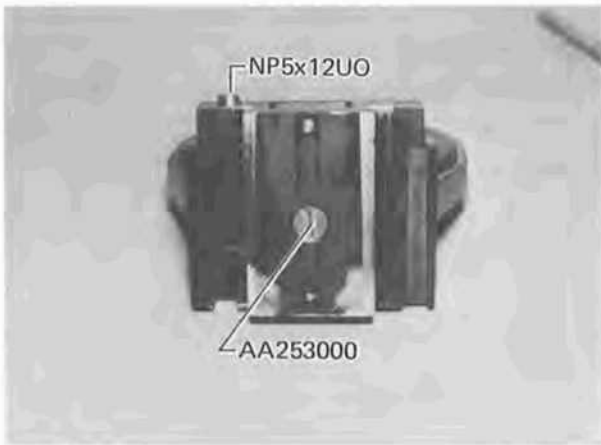

Fig. 7-7
- 7-2-8 Remove Shaft AB026200. (See Fig. 7-7.)
Do not remove Height Adjustment Pin NP5x12UO. (See Fig. 7-7.)